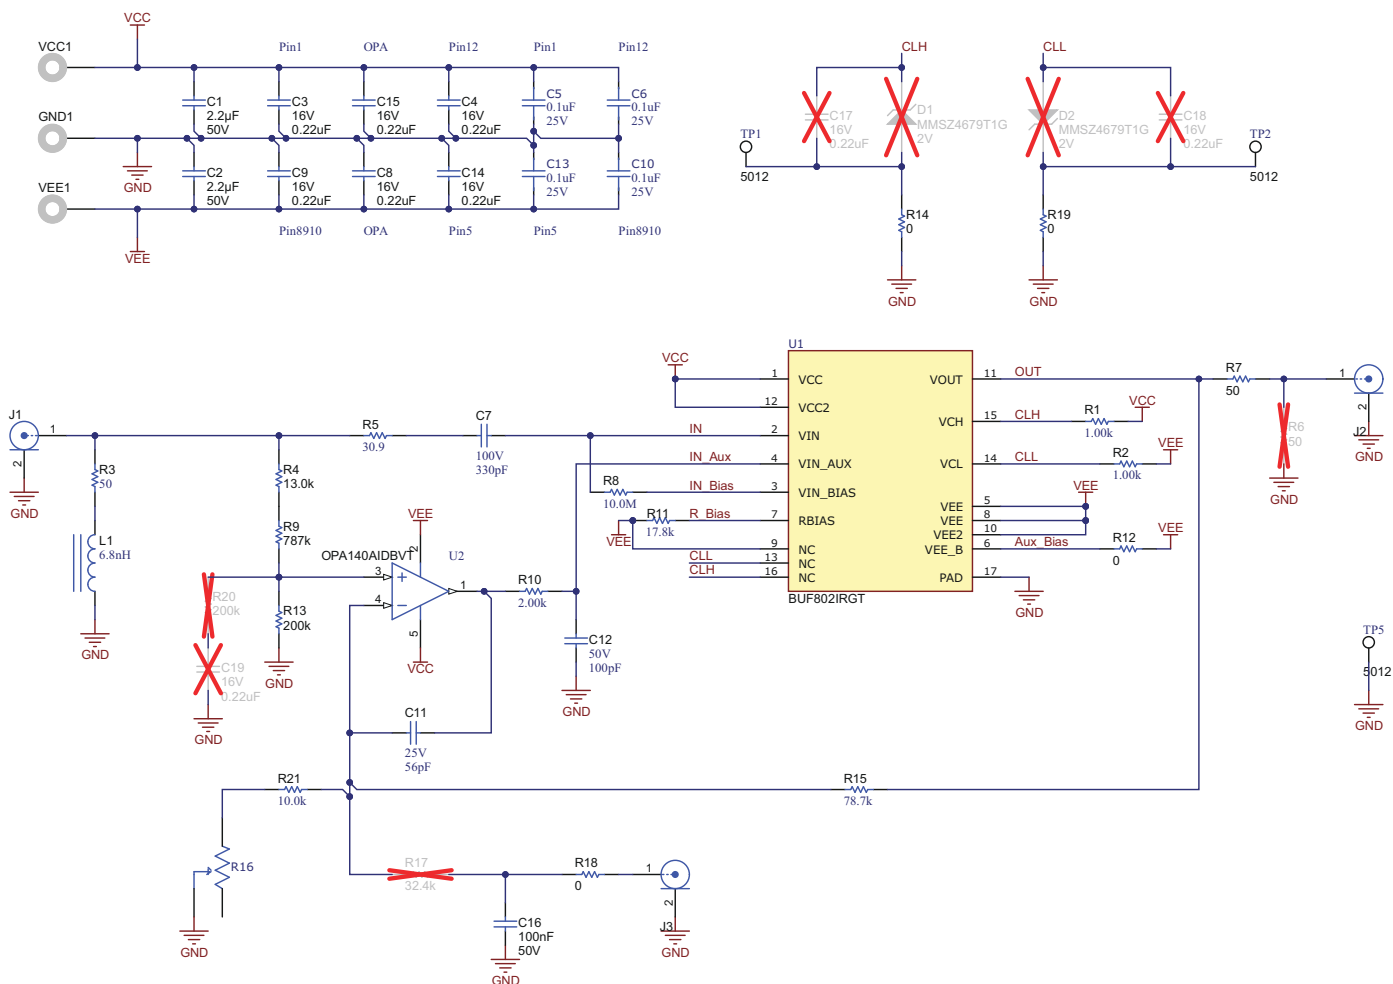

Figure 11-1. Layout Example: Schematic for Layout Reference
- **Peaking in the S21 transfer function:** keeping the trace length minimum is of prime importance to ensure no peaking occurs in the S21 transfer function of the BUF802. The trace inductance can form a resonant circuit with the input capacitance of the BUF802, causing peaking in the S21 response. Add a small resistor (R_5 in Figure 11-1) in series with the DC blocking capacitor to dampen the LC resonance created by the trace inductance and the input capacitance of the BUF802. Choose series capacitors (C_7 in Figure 11-1) with low equivalent series inductance (ESL) to minimize total inductance.
- **Power-supply bypass capacitors:** mount the power-supply bypass capacitors as close to the supply pins as possible and on the same side of the PCB as the BUF802. As shown in Figure 11-1, choose low-inductance LICC capacitors (C_5 , C_6 , C_{13} , and C_{10}) to minimize high frequency impedance between the BUF802 and the bypass capacitors. Use multiple vias between the bypass capacitor and GND to reduce series inductance. As shown in Figure 11-1, also use multiple vias to GND on the 50Ω input termination resistor (R_3). Connect the bypass and termination vias to a solid GND plane.